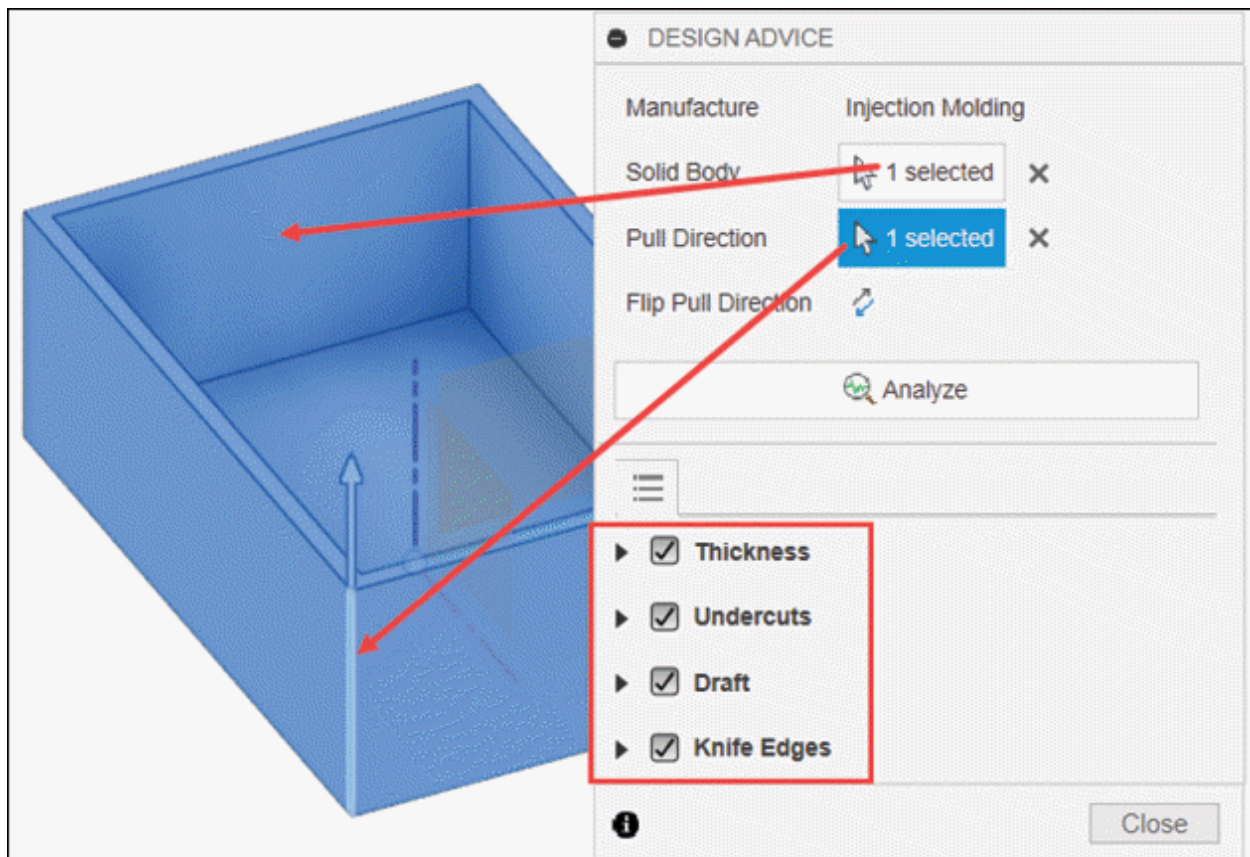

Figure-75. Parameters specified for design advice
- Select check boxes from the **Summary** section of dialog box and define properties of model to be analyzed for molding; refer to Figure-75.